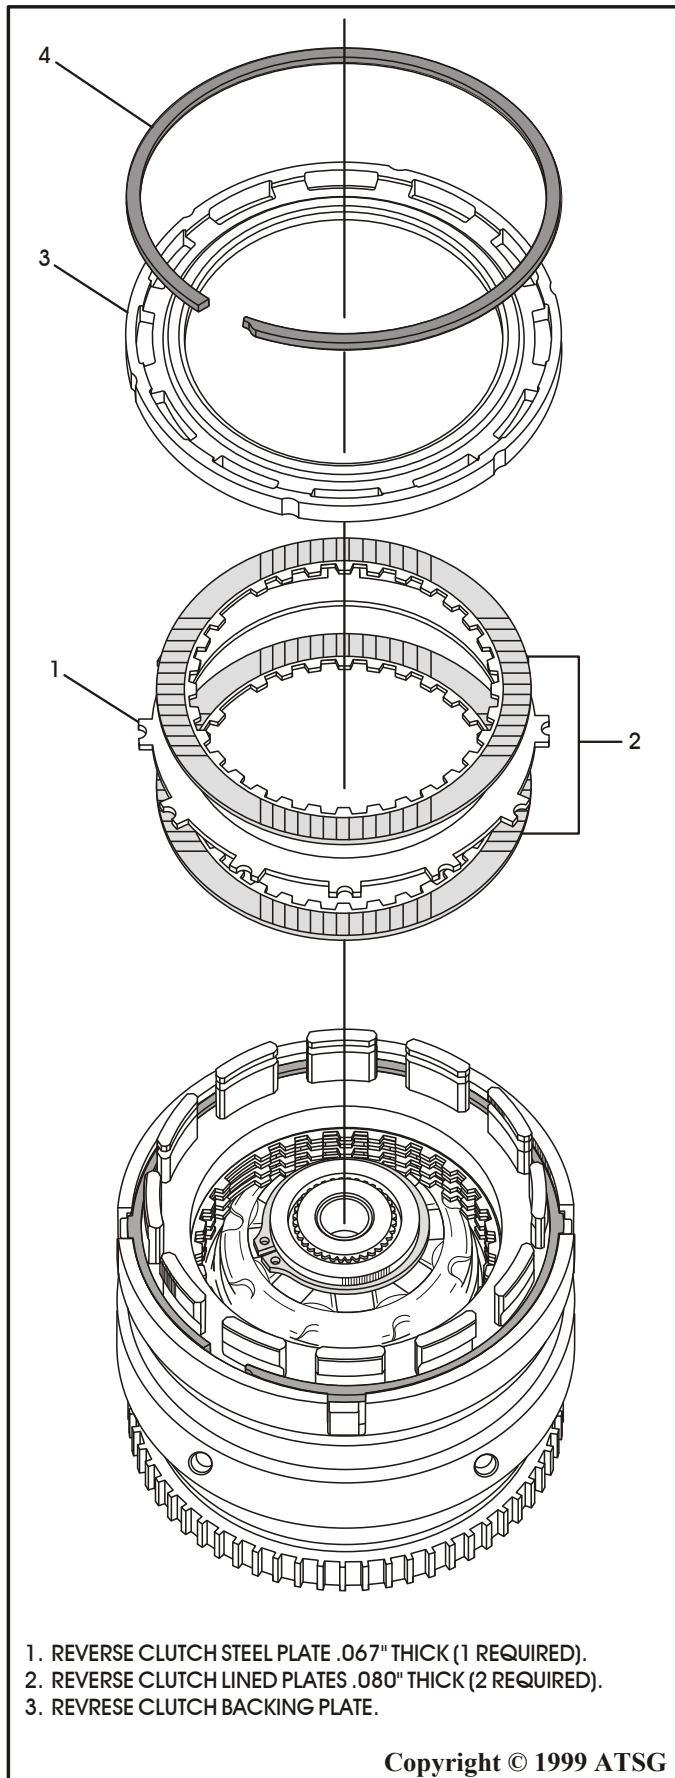

Figure 80
35. Install the reverse clutch pack beginning with a lined plate and alternating with steel plate until you have installed two lined plates and 1 steel plate, as shown in Figure 80.
36. Install the reverse clutch backing plate with the flat side down, as shown in Figure 80.
37. Install reverse clutch backing plate *selective* snap ring as shown in Figure 80.
48. Re-install the reverse clutch pack completely as shown in Figure 80.